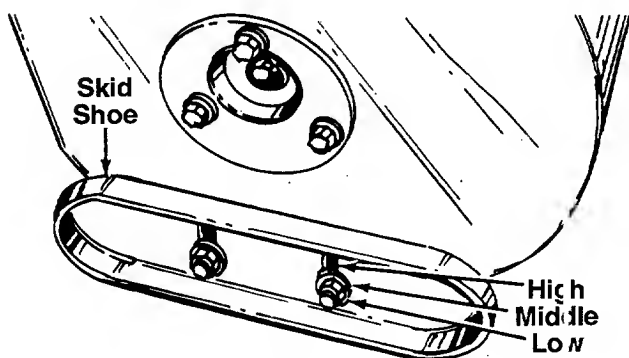

FIGURE 17.
24. The space between the shave plate and the ground can be adjusted. For close snow removal, place skid shoes in the low position. Use middle or high position when area to be cleared is uneven. See figure 17.